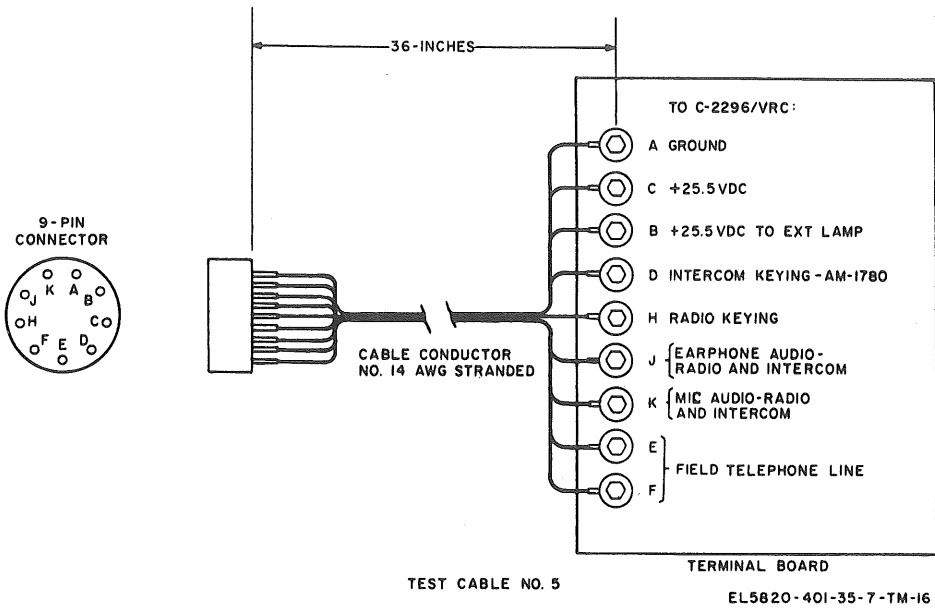

Figure 3-2. Fabrication details for test cable No. 5.
- (3) Test cable No. 5, fabricated in accordance with details in figure 3-2.
- (4) Resistor, 150 ohms, 2 watts (3 each).